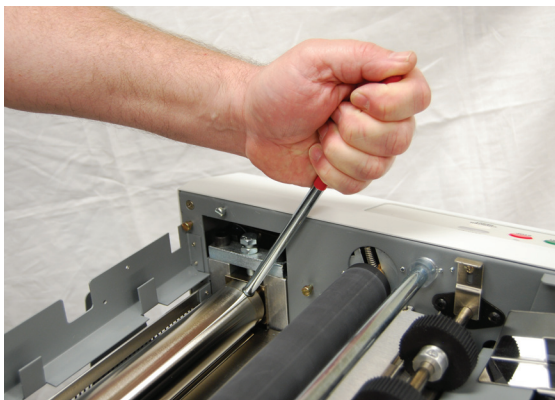

Figure 6
3. Remove the jam clearing handle (located under the upper fold table), apply the handle to the upper metal roller (figure 6) and turn clockwise until the paper jam is clear. **NOTE:** Do not turn the roller counter-clockwise to force the forms to exit: rollers may be damaged.